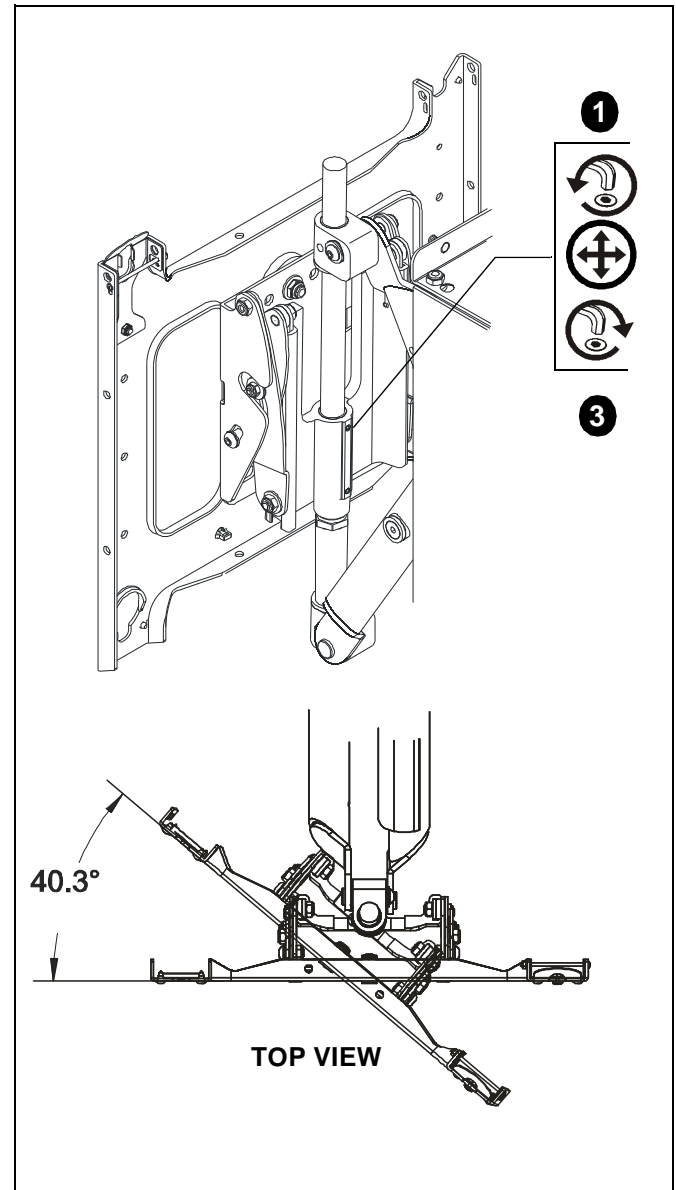

Figure 18
1. With display installed, loosen adjustment screw using hex wrench. (See Figure 18)